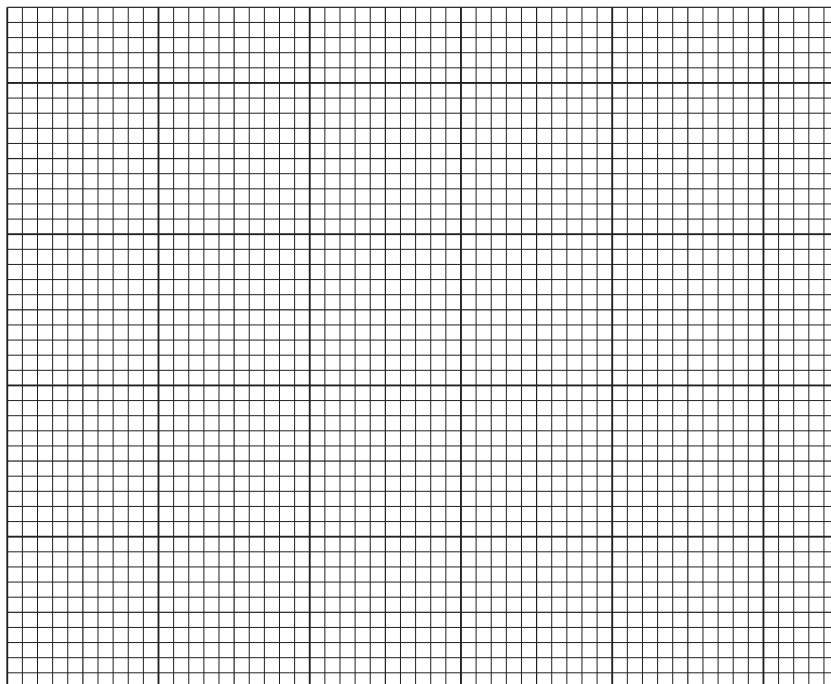

Fig. 1.4
- (i) Plot a bar chart of the data in Table 1.4 on the grid in Fig. 1.4.